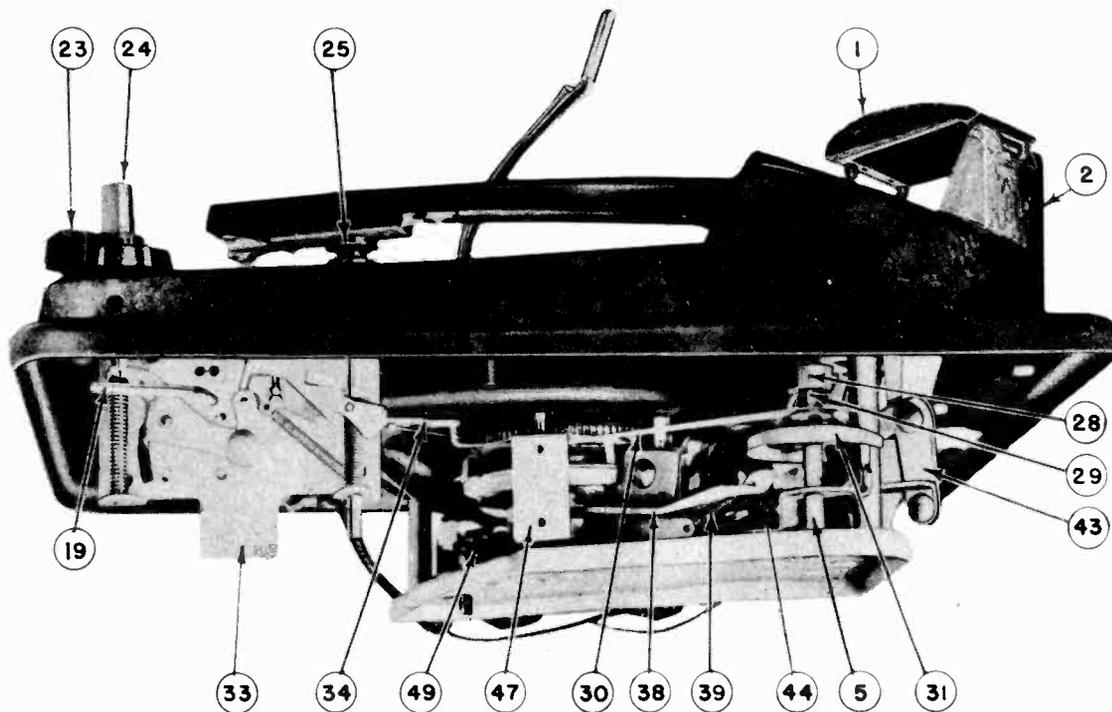

FIG. 6 - PARTS LOCATION -- RIGHT SIDE VIEW
- 2 - Manual Trip Lever (Illus. 34 Fig. 6.) binding at rivet.
- 2 - Pickup Arm Shaft (Illus. 5 Fig. 6). Apply one drop each to bottom bearing point, bracket hole and hole through Main Base Plate.